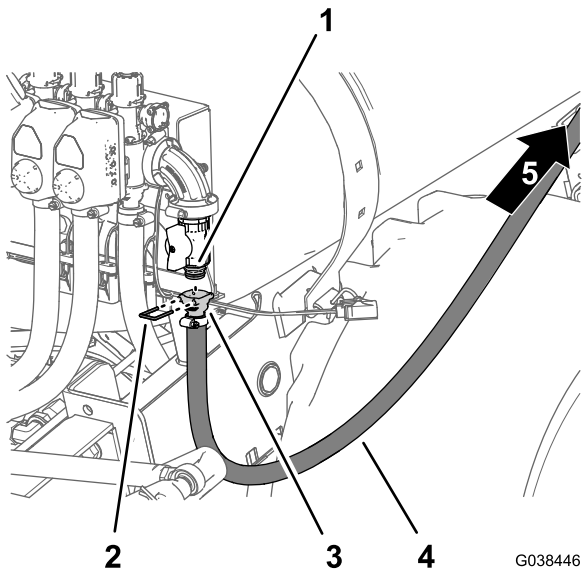

Figure 96
3. Secure the straight barbed fitting and the quick-connect fitting (Figure 96) with the retainer that you removed in step 3 of Installing the Shutoff Valve for the Optional Spray Gun Kit or the Electric Hose Reel Kit (page 42).
4. Route the supply hose forward along the sprayer tank toward the hose reel (Figure 96).